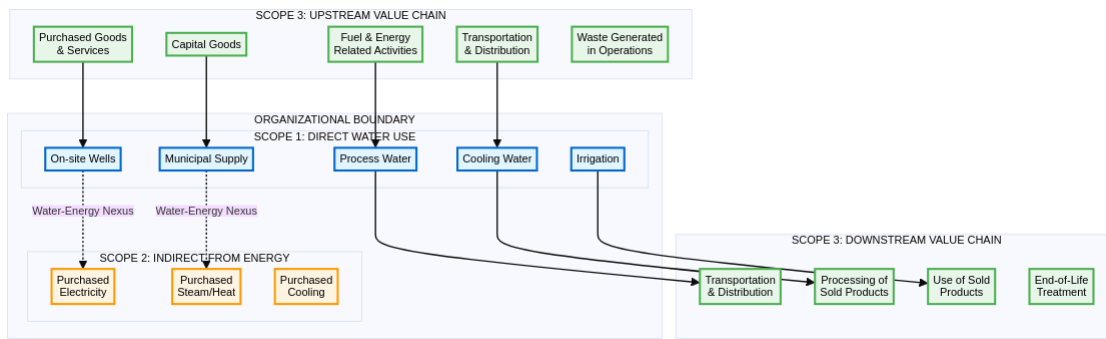

Figure 8.1: Three-Scope Framework for Water Accounting
**Figure 8.1:** The three-scope framework for organizational water accounting, adapted from the GHG Protocol. Scope 1 includes direct water use from on-site sources; Scope 2 includes indirect water embedded in purchased energy; Scope 3 includes value chain water use from suppliers and customers. This framework provides a comprehensive boundary for corporate water accounting.